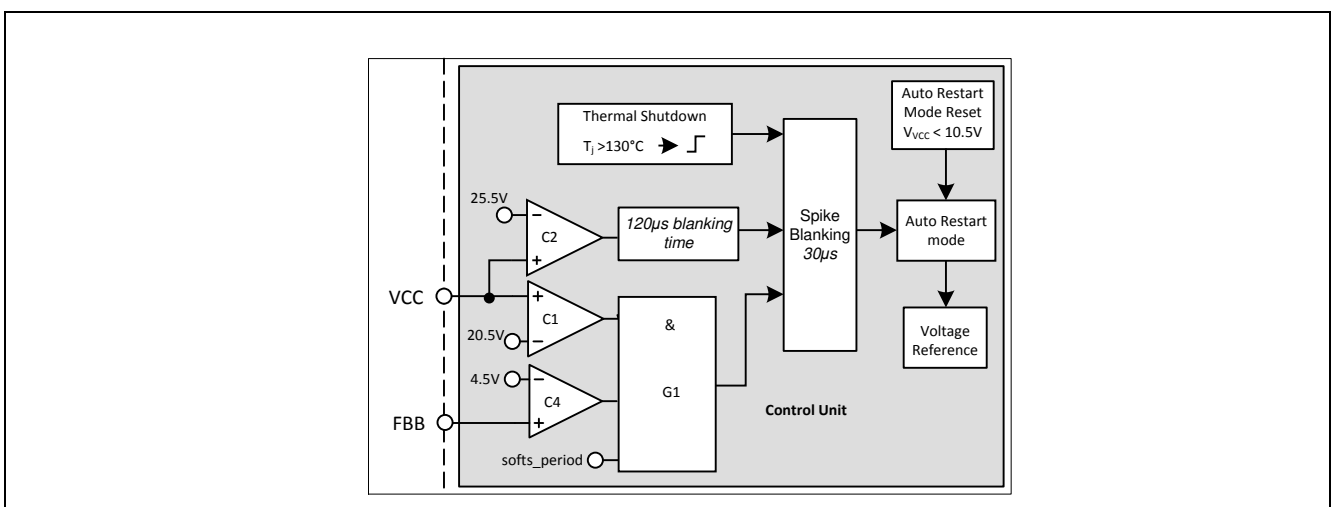

Figure 30: VCC OVP and OTP
VCC OVP (1) condition is when VVCC voltage is > 20.5V, VFBB voltage is > 4.5V and during soft start period, the IC enters into odd skip Auto Restart Mode. This condition likely happens during start up at open loop fault (Figure 30).